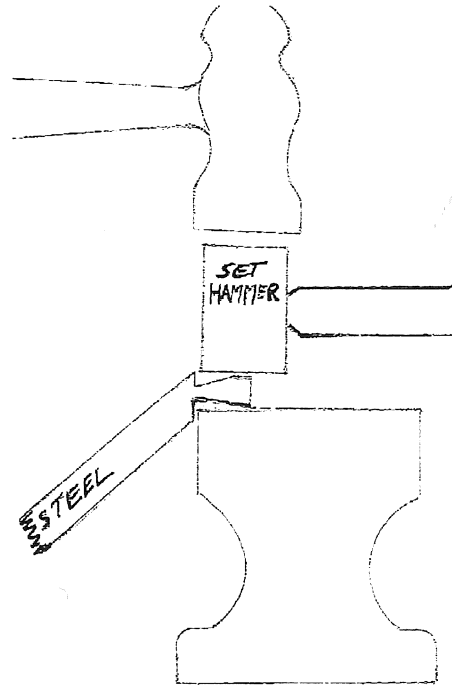

Fig. 5.
5. Now you have to draw out the tenon and square up the tenon to the right size. If you want a 3/8" round tenon, you must start with 3/8" square. You can do this over the sharp edge of your anvil using a set tool, *Fig. 5*, or by using a smithing magician or spring die (frees up your hands). Keep an eye on the angle of your tenon. Clay says you can do this on your flat dies with your power hammer, but that it is RISKY (if I did that, I would probably try using kiss blocks).